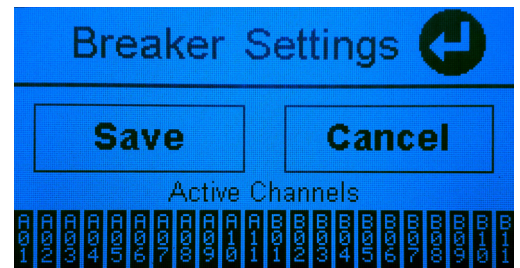

Figure 5. Breaker Inventory
- Step 2.** Select "Take Inventory". All installed and active breakers will be displayed. Follow the on-screen prompts to complete the inventory process (see Figure 5).